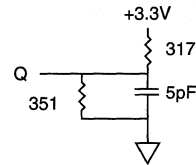

Fig. 2 OUTPUT LOAD EQUIVALENT
6. t_{HZCE} , t_{HZOE} and t_{HZWE} are specified with $C_L = 5pF$ as in Fig. 2. Transition is measured $\pm 200mV$ from steady state voltage.